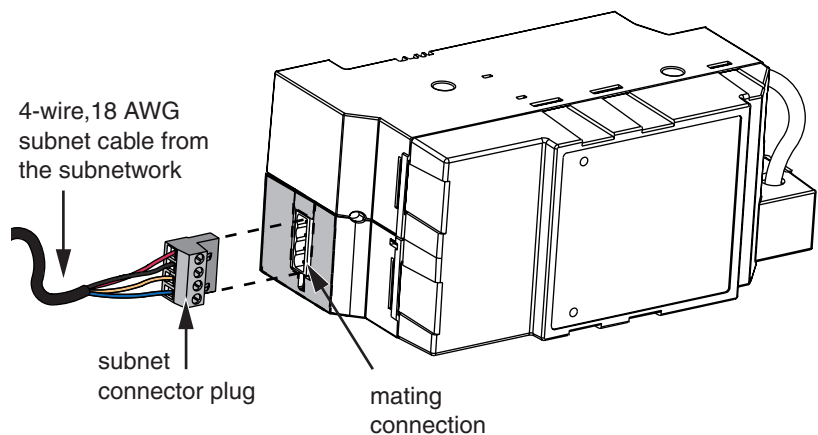

Figure 5: Connecting the subnet connector plug to the power supply
4. Push the subnet connector plug into the mating connection on the left side of the power supply (see Figure 5).